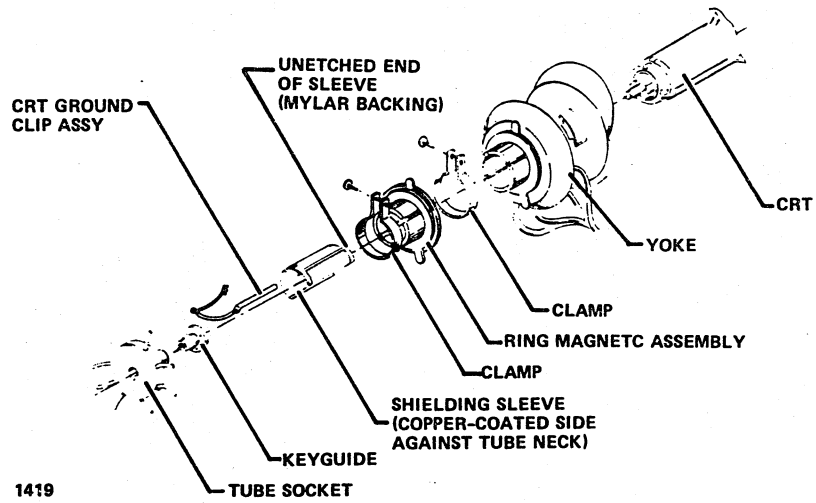

Figure 6-25. Yoke Assembly
7. Loosen the clamp that holds the yoke in place with a screwdriver (figure 6-25).